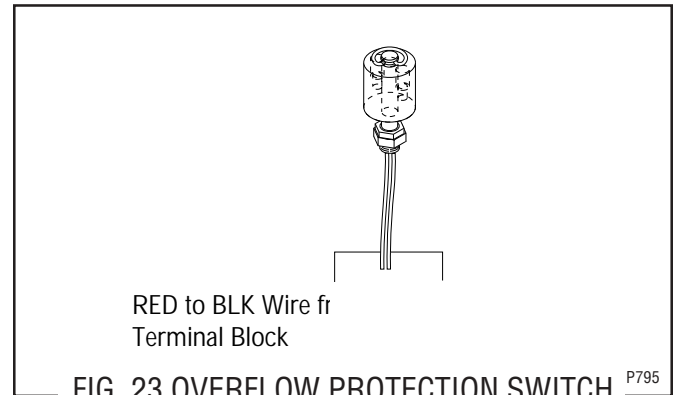

FIG. 23 OVERFLOW PROTECTION SWITCH LEADS P795
6. Refer to Fig. 23 when reconnecting wires.